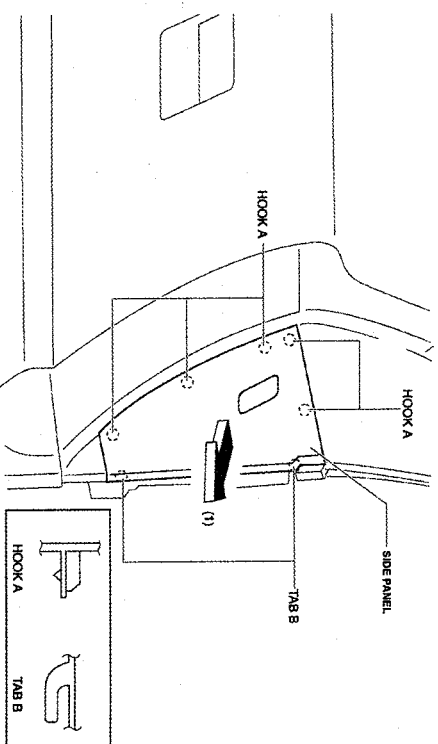

FIGURE 16
- 1.) PULL THE SIDE PANEL IN THE DIRECTION OF THE ARROW (1) AND THEN REMOVE THE HOOKS A. (SEE FIGURE 16)